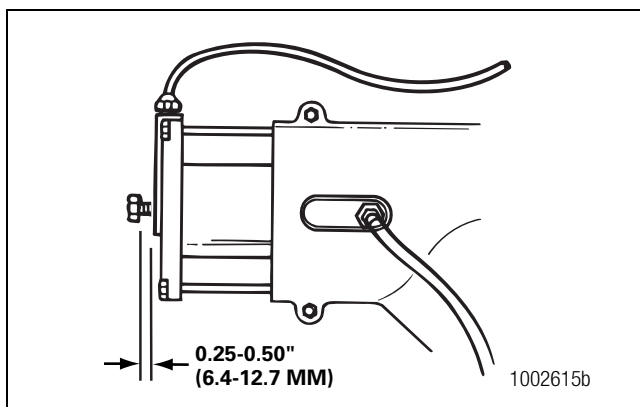

Figure 11.8
- B. Turn the capscrew to the right until the head is approximately 0.25-0.50-inch (6.4-12.7 mm) from the cylinder cover. The capscrew is now in the service position and the main differential is locked or engaged. Figure 11.8. When you turn the capscrew, you will feel a small amount of resistance. This is normal.